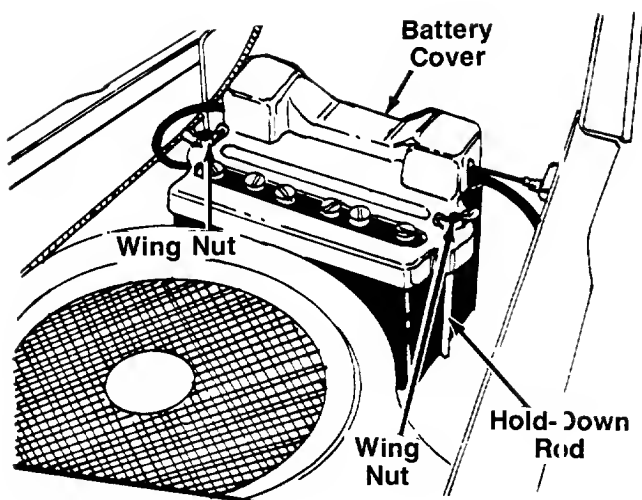

FIGURE 8.
4. Hook one hold-down rod into the hole in battery plate beside the battery. See figure 8. Place the black plastic battery cover in position over the hold-down rod. Secure with wing nut. Attach other hold-down rod to the other side of battery cover in the same manner.